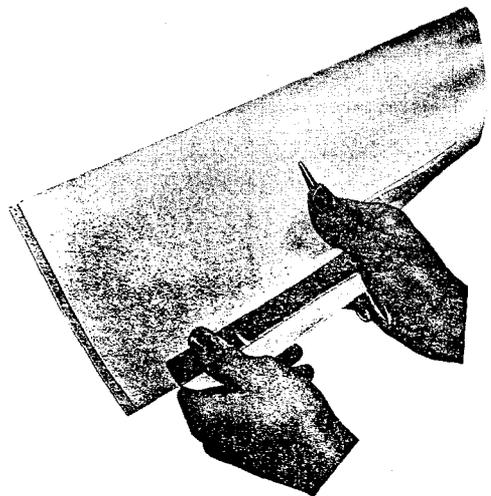

Fig. 8—Cutting Multimold
- (h) Remove the Multimold from around the cable. Cut the Multimold at the adhesive overlap mark (Fig. 8).